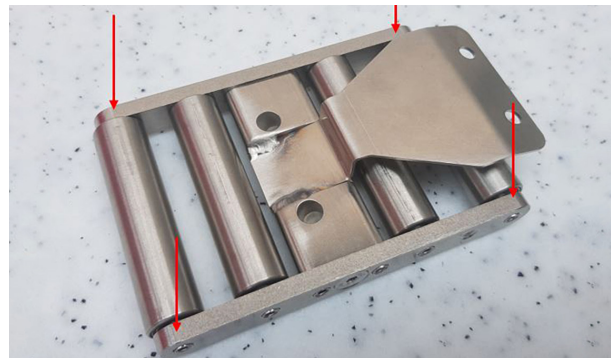

fig. 2
- The upper and lower contact rollers should be straight and aligned with the direction of travel. Place it on a flat surface. When pressing along the arrows, nothing should move (see fig. 2).